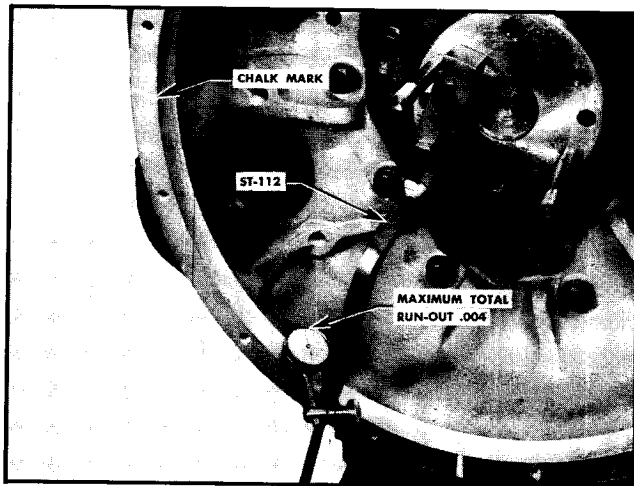

Fig. 12-58. Indicating bore of flywheel housing
1. Fasten an indicator gauge to the crankshaft flange as shown in Fig. 12-58 to indicate the bore of the hous-